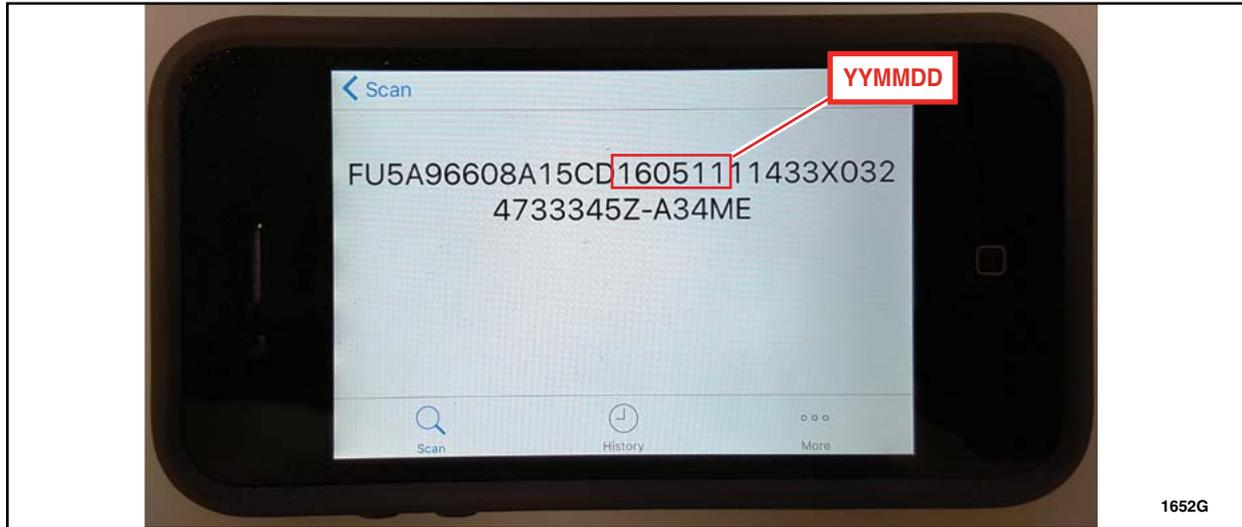

FIGURE 8
- The build date code will be listed in YYMMDD format after the fourteen character engineering part number. See Figure 8.